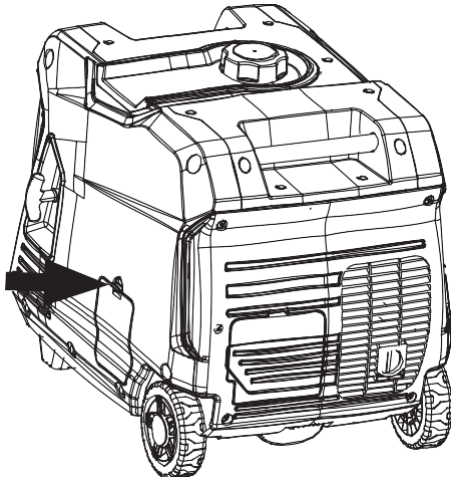

Figure 3: Oil Service Panel
9. Unclip and remove the oil service panel to access the oil fill/drain plug (see Figure 3).